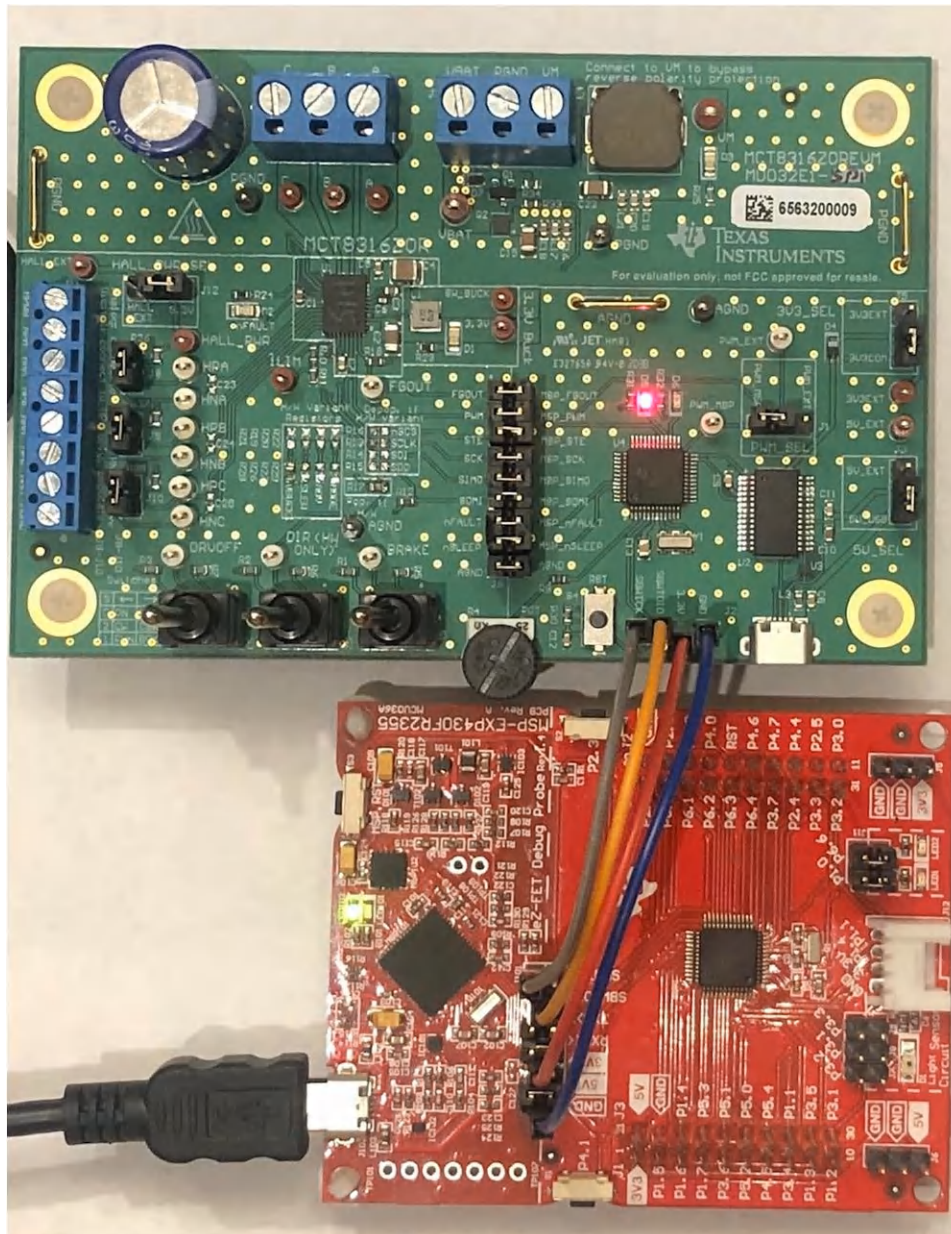

Figure 6-2. MSP430 LaunchPad™ eZ-FET Probe Connected to MCT8316ZTEVM
2. Connect the top pins on the eZ-FET side of the LaunchPad of the GND, 3V3, SBWTCK, and SBWTDIO signals to their respective pins on J4 of the MCT8316ZTEVM as shown in Table 6-1 and Figure 6-2.